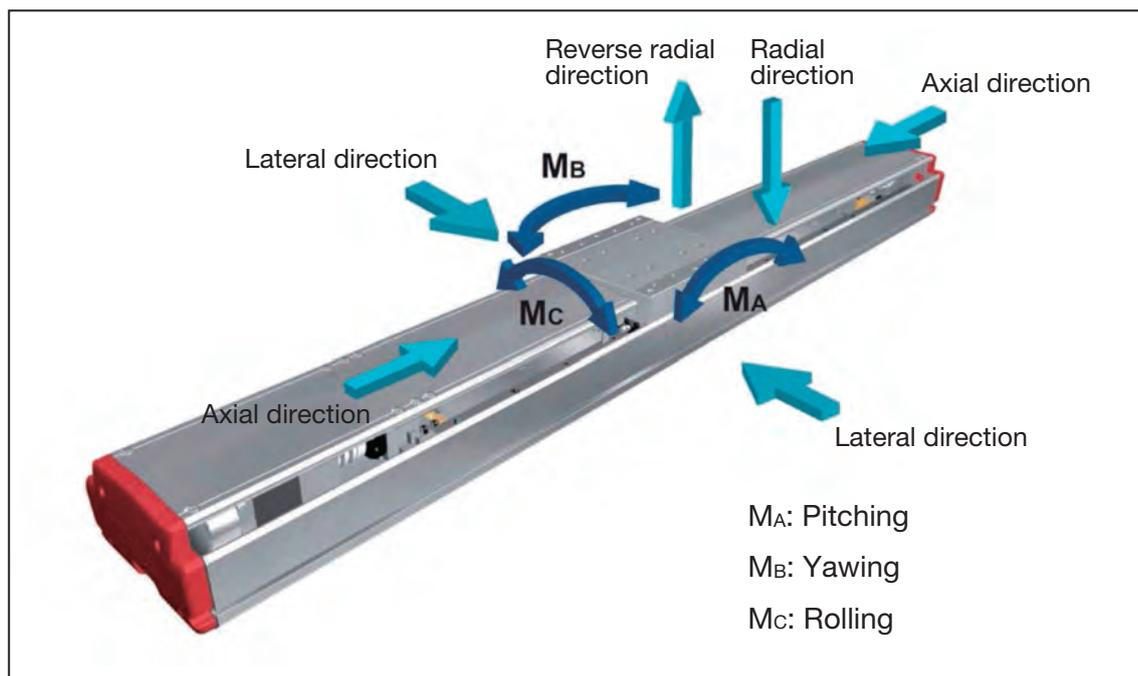

Fig.33 Imposed load ratio and moment direction
- Static permissible moment is shown in Table 17. For the direction of the moment, see Fig.33. (The static moment is the value when a load is applied only to one direction.)